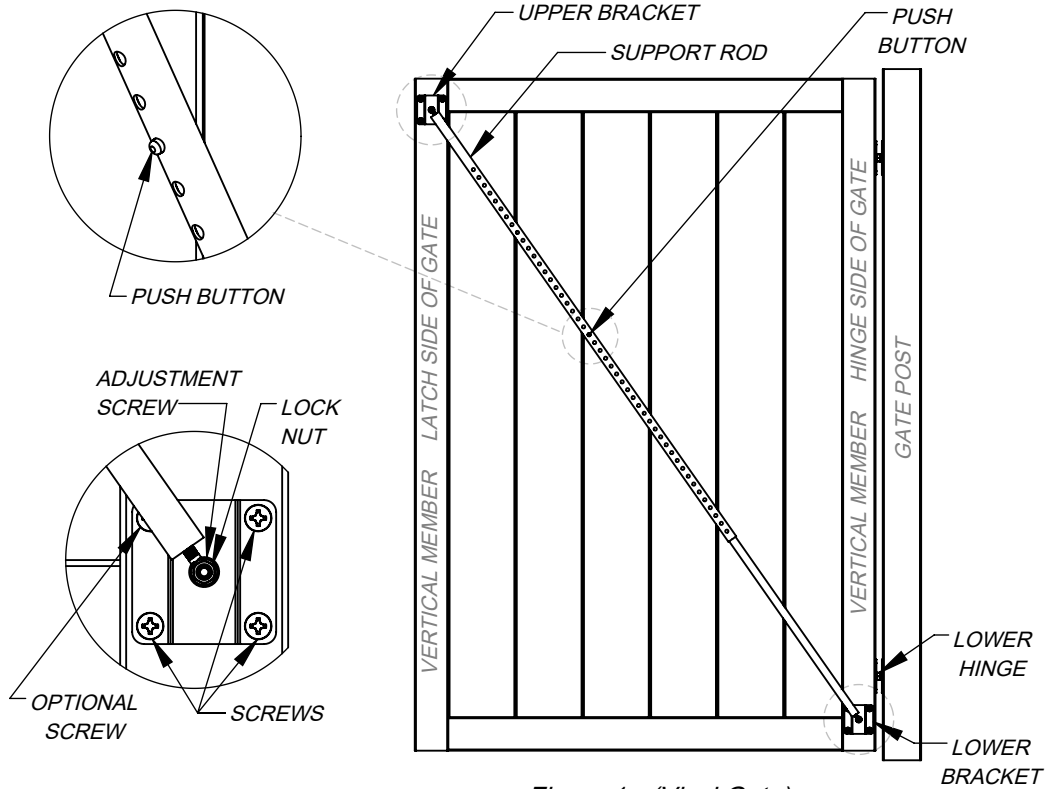
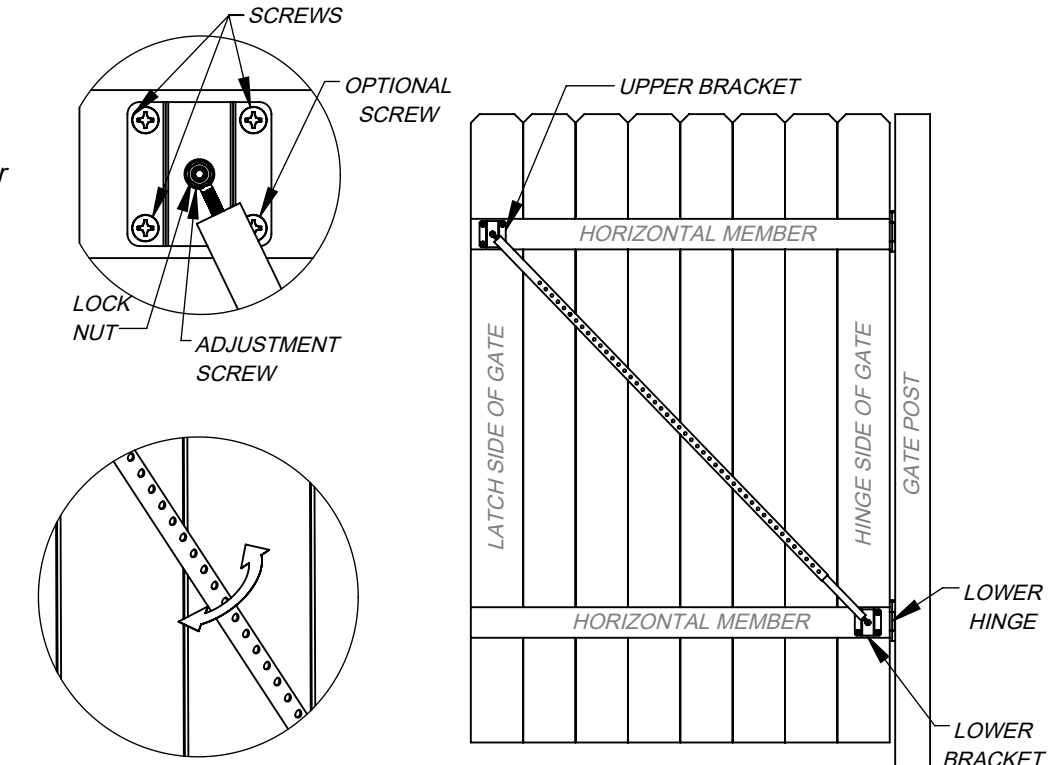

Figure 1 - (Vinyl Gate)
Figure 2 - (Wood Gate)
-For most vinyl gates, the ideal mounting location is with the brackets on the vertical members on the edges of the gate as shown in Figure 1.
-For most wood gates, the ideal mounting location is with the brackets on the horizontal members as shown in Figure 2.
- Locate the push button on the side of the support rod. Push the button in and extend the support rod until the mounting brackets reach the locations shown in Figure 1 for vinyl gates or Figure 2 for wood gates. Release the button and ensure it is secured in the nearest button hole.